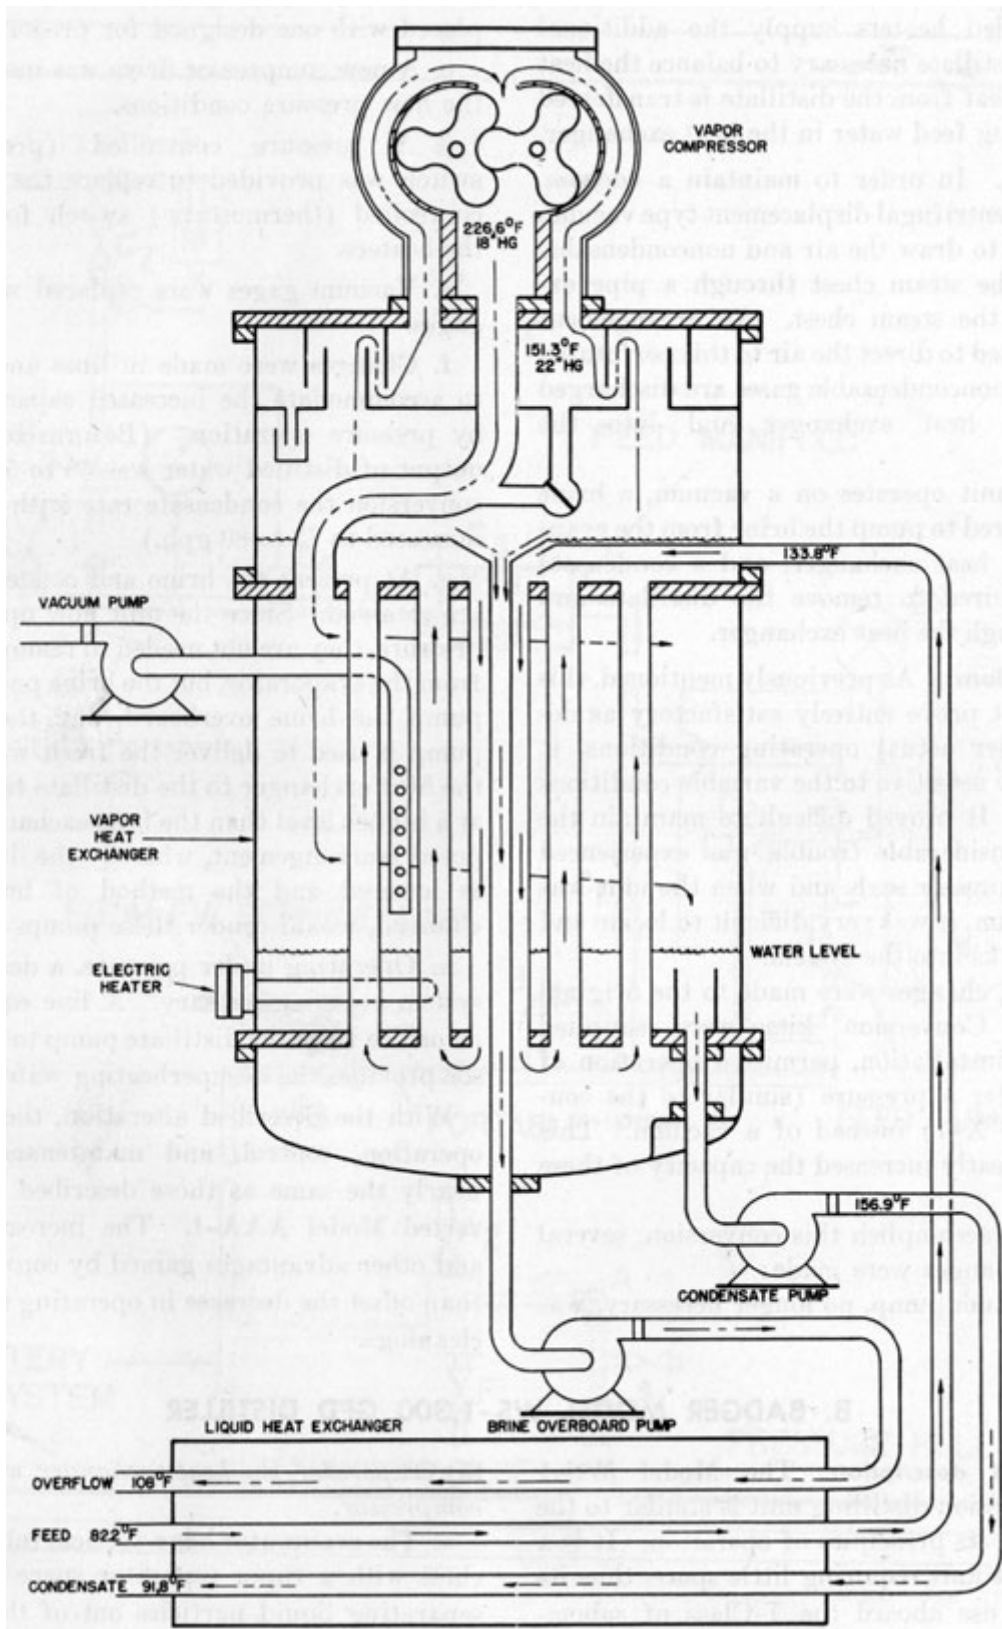

Figure 10-1. Schematic sketch vapor compression distilling unit Model V1.
**10A2. Description.** The distilling unit consists of two main parts, the evaporator and the heat exchanger. (See Figure 10-1.) The evaporator has a vertical tube steam chest with a vapor separator above the steam chest for separation of